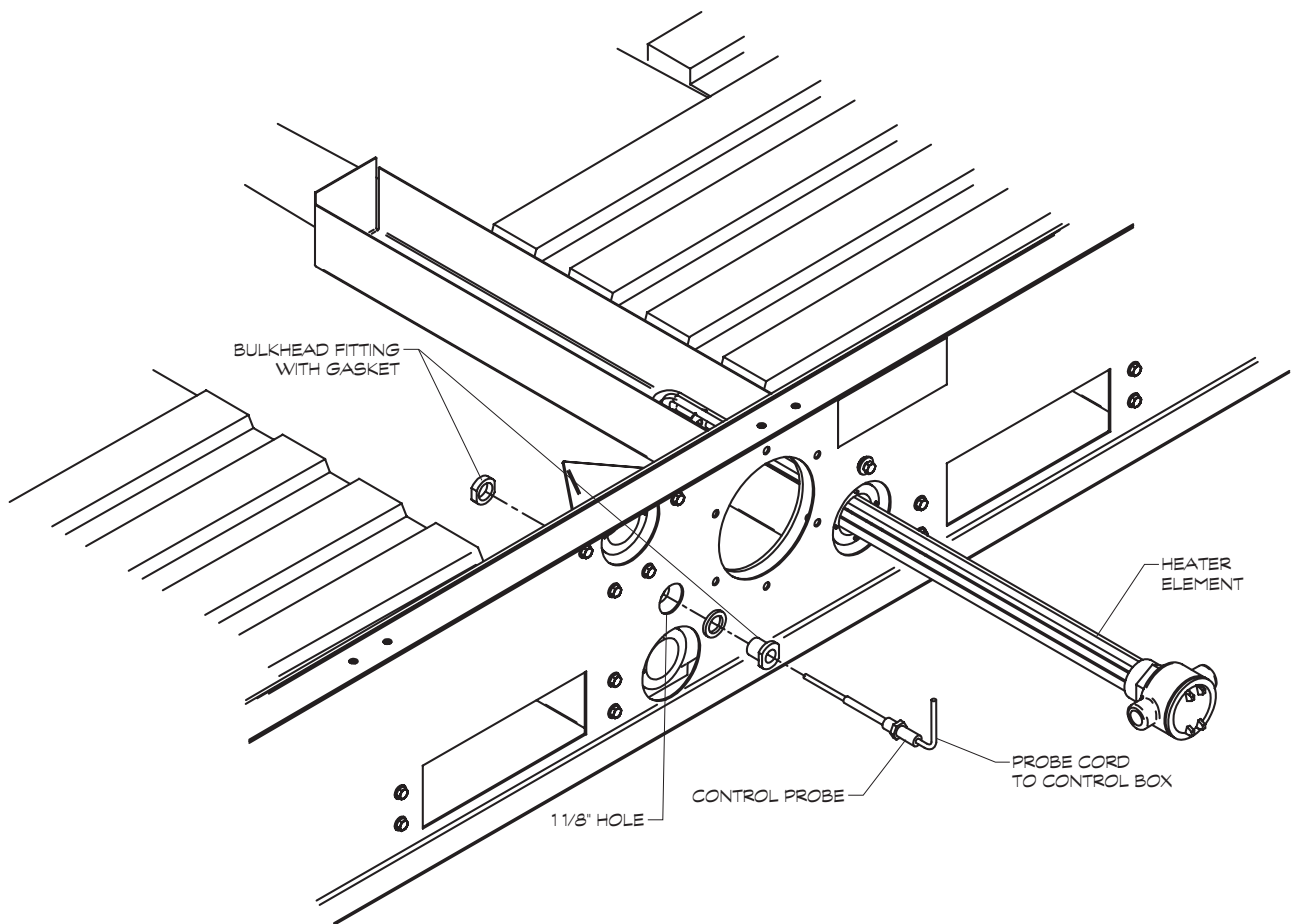

Figure 4
2. Install heater element as shown in Figure 4.
3. Attach heater support as shown in Figure 4.